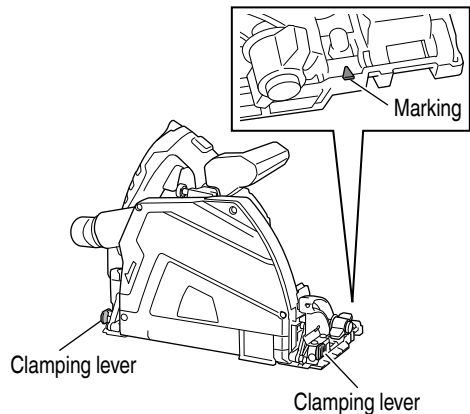

Fig. 20
4. Sawing with a rip fence (sold separately) (Fig. 20)